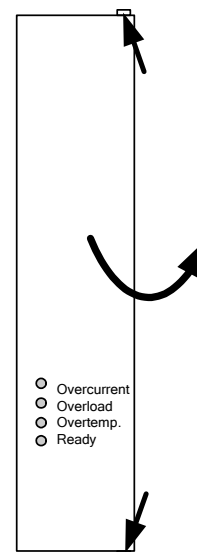

Fig. 6-1 Opening the front cover
- ◆ Undo both screws at the top and bottom of the front panel and turn the front panel to the side (Fig. 6-1). It is not necessary to remove the front panel with side covers. The PE connection to the front cover must be removed!